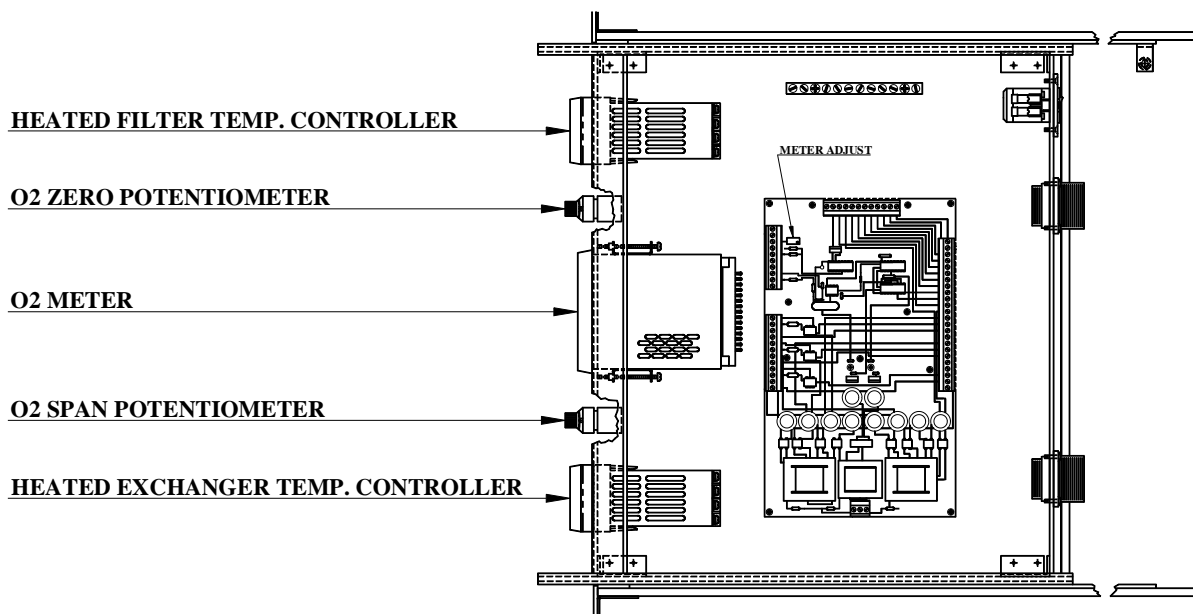

Figure 3.8-2 Remote probe controller assembly (top view)
- C) After the O2 reading has stabilized (4 mA at the input), adjust the O2 zero potentiometer on the front panel (please see Figure 3.8-2) until the output signal is equal to the input signal.